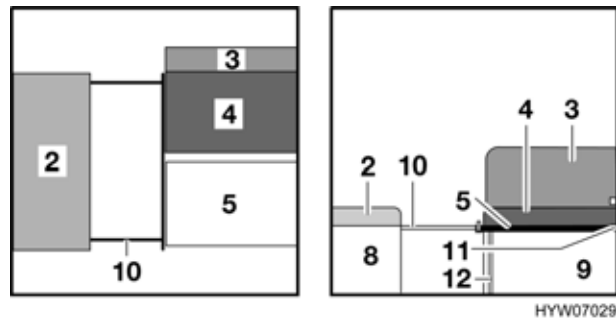

Fig. 83 During conversion
- Unfold the support (Fig. 83,12) at the bottom of the table.
- Insert the table-top at a 45° angle in the lower mounting rail (Fig. 83,11) and lower it in front of the bedding box of the central bench (Fig. 83,9).
- Pull out the bedding box extension (Fig. 83,10) on the divan all the way.